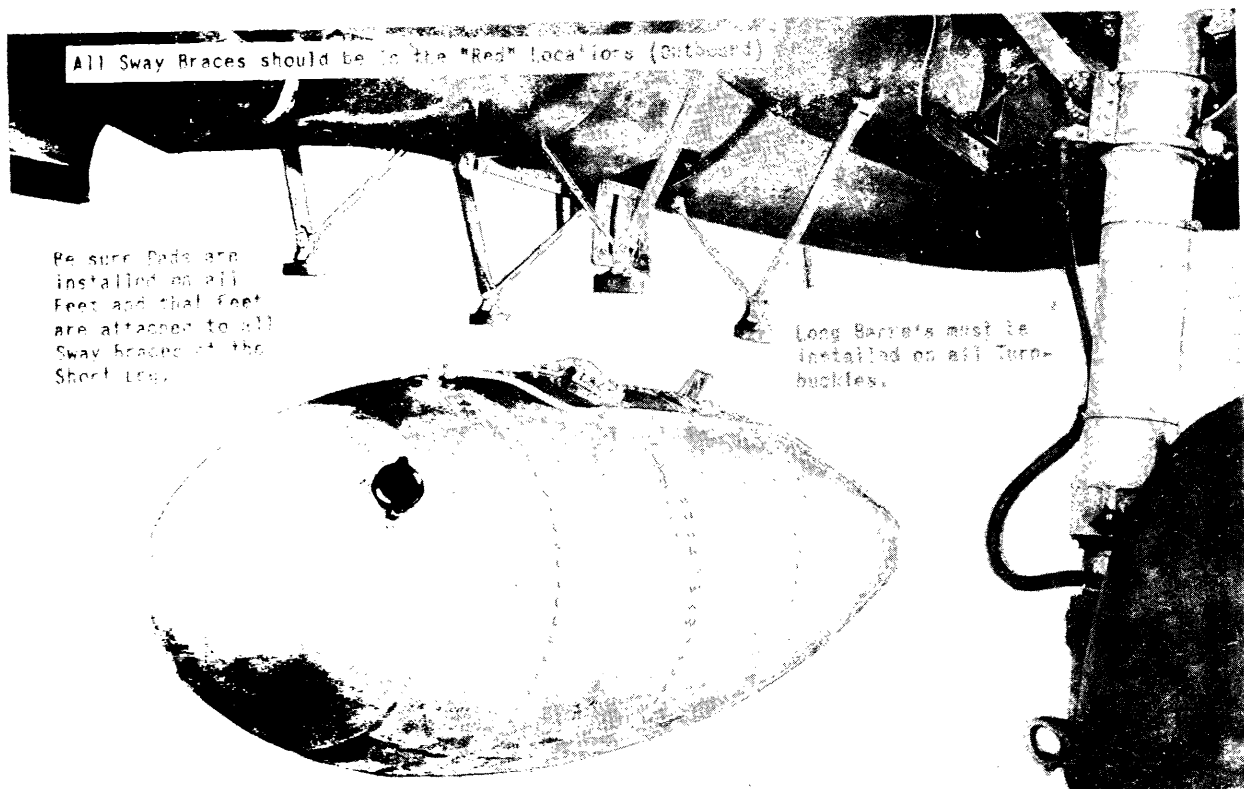

Figure 77 - 75-Gallon Belly Tank Ready for Installation
(2) Install long barrels on all sway brace turnbuckles. (See figure 77.)
(3) Proceed with the installation as outlined in 3.a.(2) through (8).